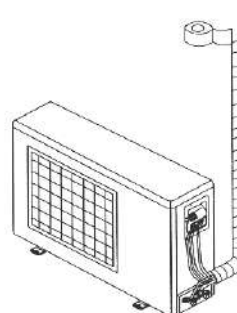

Fig.9.16
- (1) Use adhesive tape to bundle the refrigerant pipe and the cables together. To prevent condensate from overflowing out from the drainage pipe, separate the drainage pipe from the refrigerant pipe and the cables.
- (2) Use thermal insulation tape to wrap the pipes from the bottom of the outdoor unit until the upper end of the pipe where the pipe enters the wall. When wrapping thermal insulation tape, the later circle of tape must cover half of the front circle of tape (Refer to Fig. 9.16).
- (3) Wrapped pipe must be fixed to wall using pipe clamps.